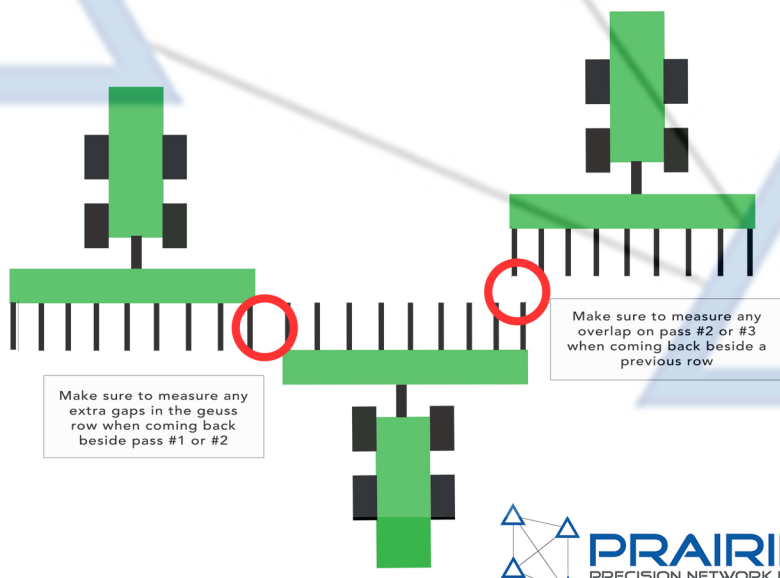

FIGURE 7
2. MAKE three passes in the field to determine overlap/skip. Make sure to only measure overlap/skip once fully on Autotractor line and GPS error reads zero (Figure 7)